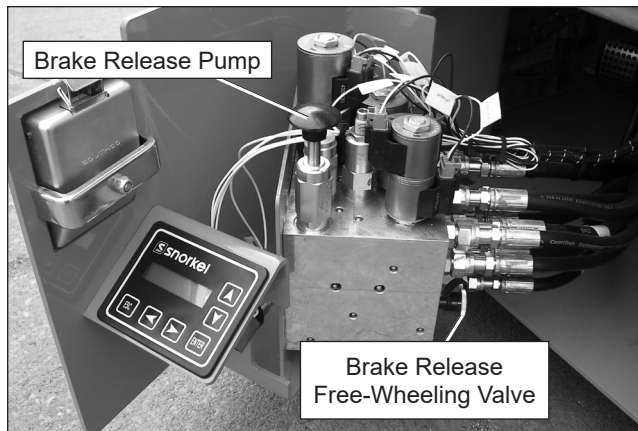

Figure 11.5 – Hydraulic Tray
2. Unlatch and swing out the control valve tray on the right side of the machine. The brake release/free-wheeling valve is located on the back of the hydraulic manifold (refer to Figure 11.5).